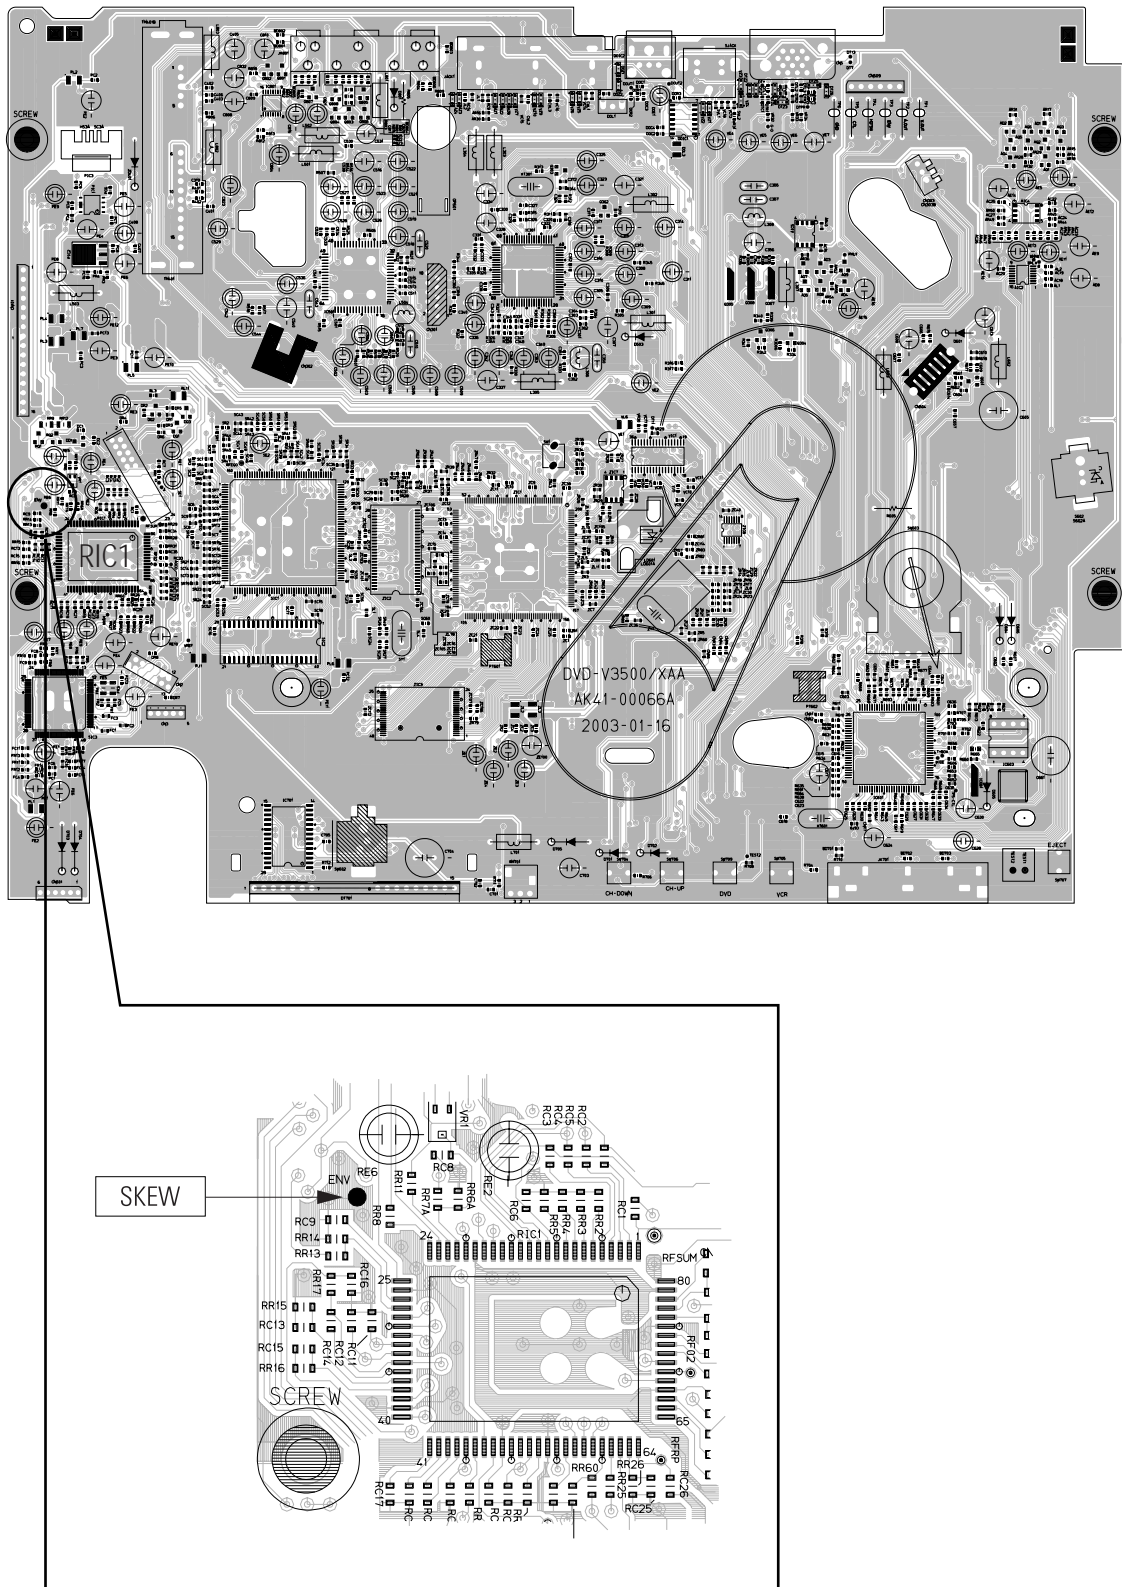

Fig. 2-5 Location of test Point (Main PCB - Top Side)
- 1) Connect an Oscilloscope to the “ENV” Test Point (See Fig. 2-5).